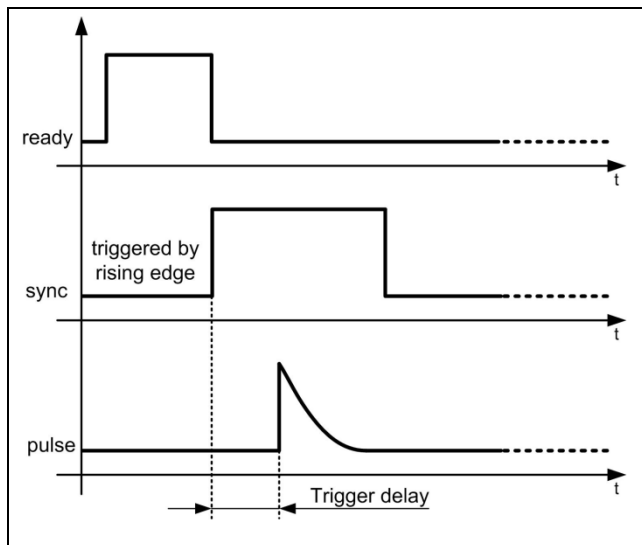
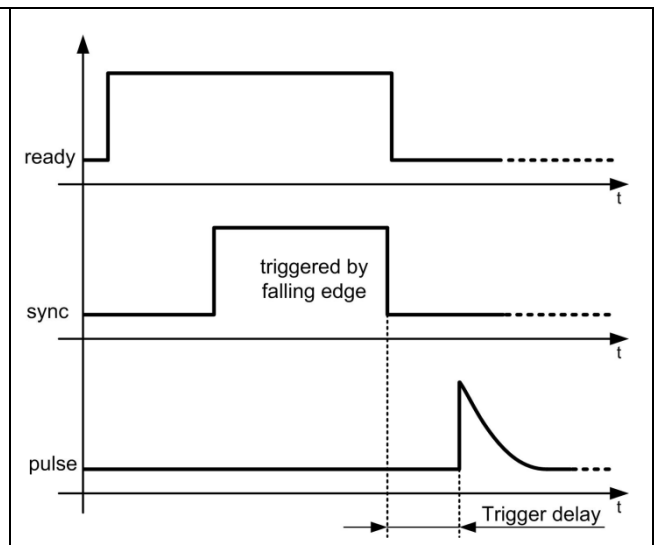

Figure 14: Signal sequence of external trigger mode, trigger on rising edge
Figure 15: Signal sequence of external trigger mode, trigger on falling edge
The ready TTL output of the BPS 202 signals when the BPS 202 is ready to start a pulse. Figure 14 and Figure 15 show the sequence of control signals when the external trigger mode is used.
- c) The pulse is emitted on a rising or falling edge at the sync TTL input (Figure 15). This depends on the settings in the BPS 202-Client software (see Section 8.7).